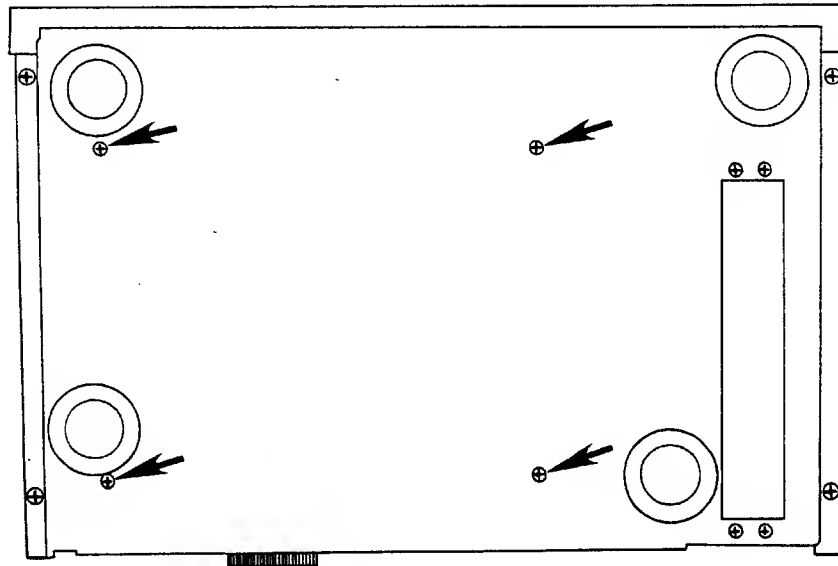

Figure 7-1: Motherboard Screw Locations (Chassis Base)
2. Turn the unit upside down and remove the four screws on the bottom of the chassis (see Figure 7-1).